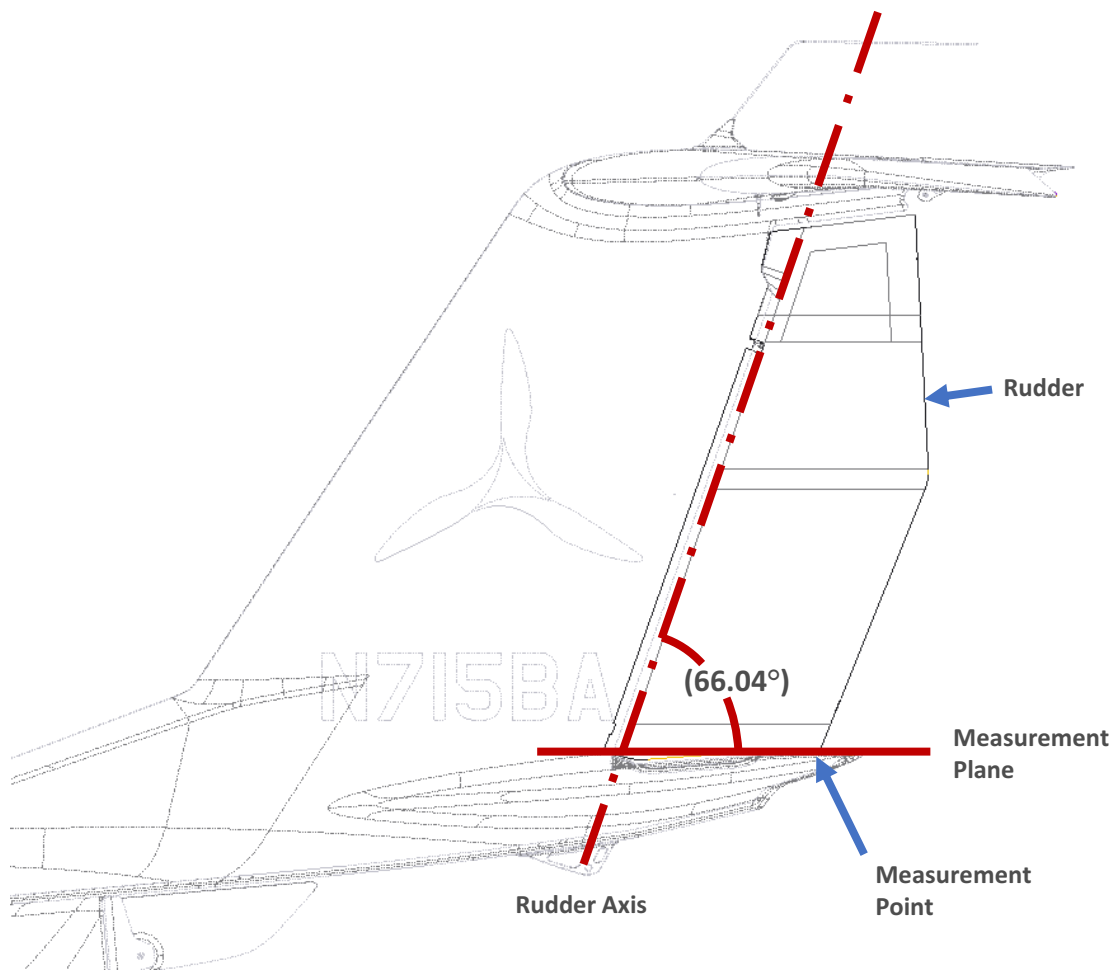

FIGURE 9-61
16. Position the rudder rigging template (ICA013055) or a protractor as shown in Figure 9-61, Center the 0° indication of the rigging template or protractor with respect to the center of the tail section under the rudder.